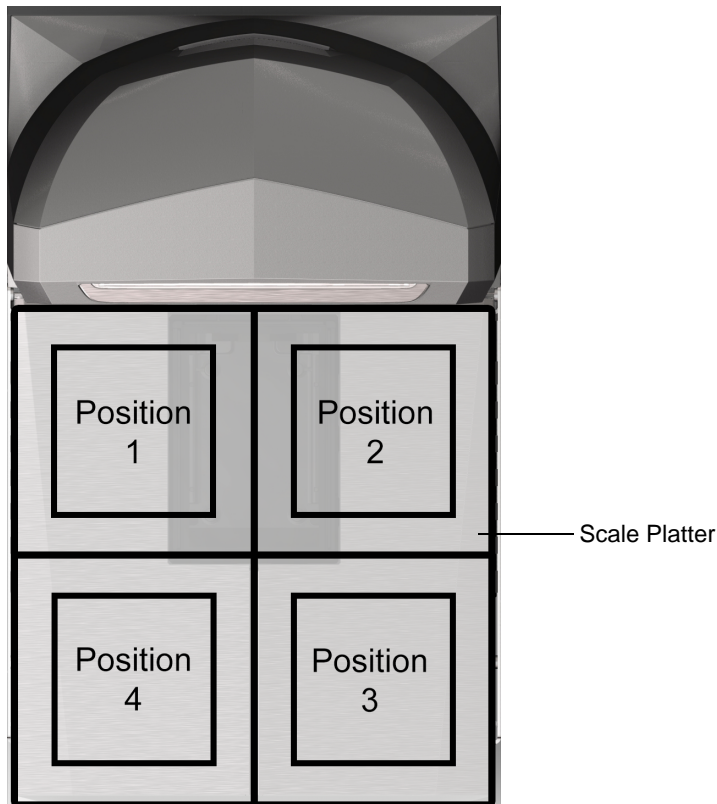

Figure 4-6 Weight Positions on the Scale Platter
Shift Test (see Figure 4-6)
The weight checked at each position on the scale, shown in Figure 4-6, represent halfway between the center of the platter and corner. Use a stack configuration of weights if needed (i.e., (2) 5.00 lb weights, or (2) 2.500 kg weights) depending on the units of measure programmed.